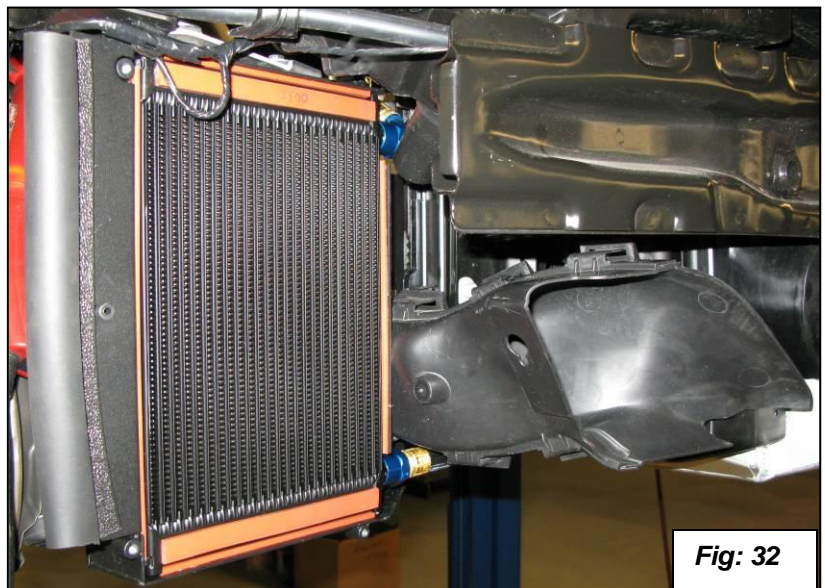

Fig: 32
34. Figure 32 shows a side view of the brake duct installed.